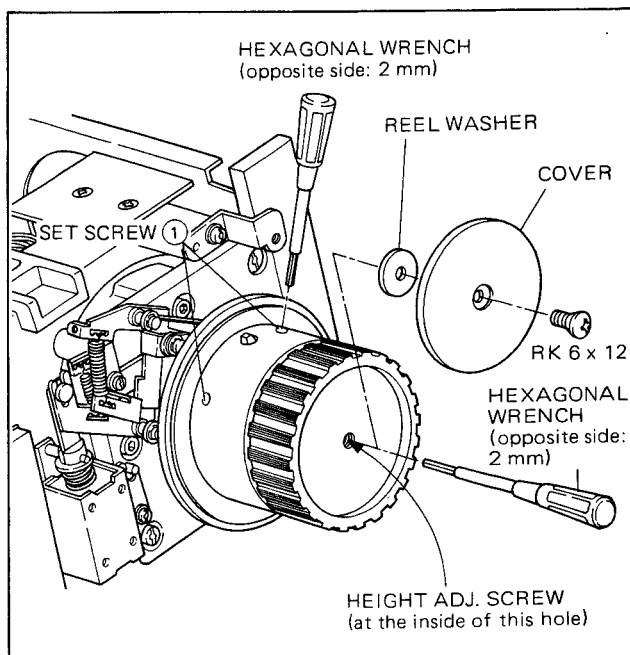

Fig. 3-29. T Reel Table Height Adjustment
- b. Loosen the two set screws ① securing the reel table, and turn the height adjustment screw shown in Fig. 3-29.